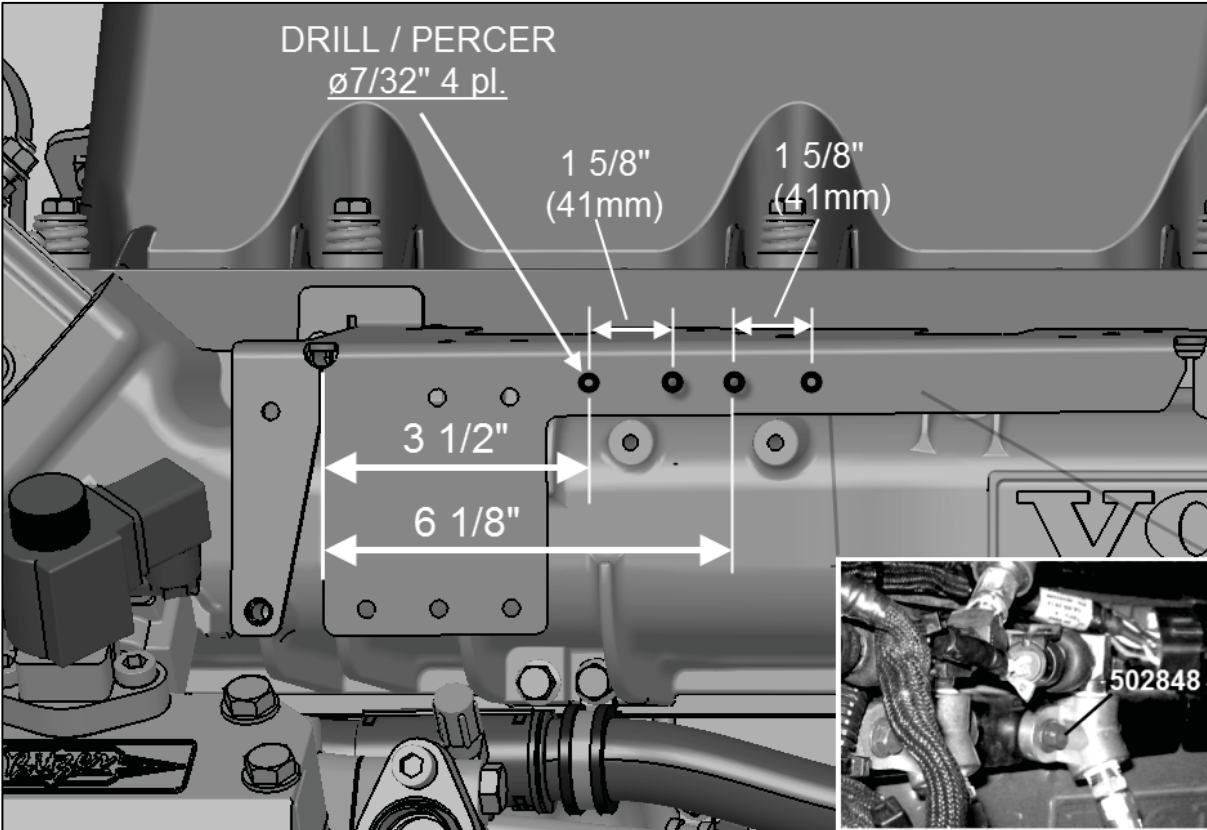

Figure 16: Drilling on the cable support
Four (4) new holes will need to be drilled. Use dimensions provided below. (Fig. 16)
Secure fitting assemblies with thread cutting screws 502848 (Fig 16)